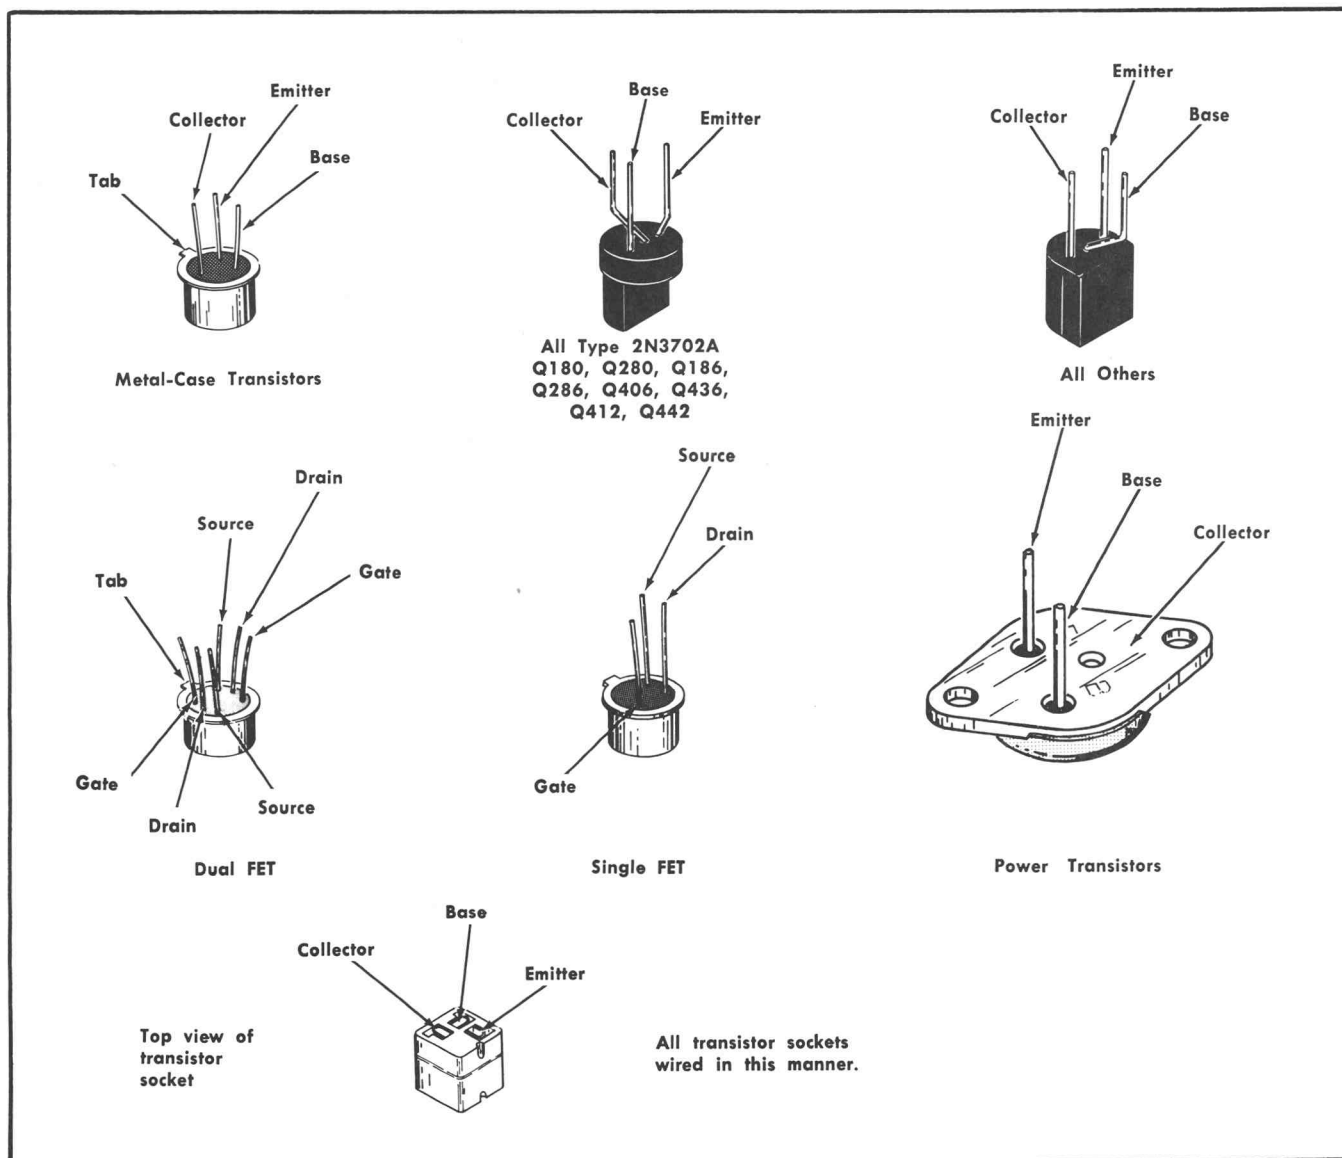

Fig. 4-15. Semiconductor base pin and socket arrangements.
Figs. 4-15 through 4-20 at the end of this section show the circuit boards used in the Type 410. Each electrical component on the boards is identified by its circuit number. The circuit boards are also outlined on the schematic diagrams with a blue line. These pictures, used along with the diagrams, will aid in locating the components mounted on the circuit boards.
A. Transistors and FETs. The best check of transistor or FET operation is actual performance under operating conditions. If a transistor or FET is suspected of being defective it can best be checked by substituting a new component or one that has been checked previously. However, be sure that the circuit conditions are not such that a replacement transistor or FET might also be damaged. If substitute transistors or FETs are not available a dynamic tester (such as the Tektronix Type 576) may be used. Static type testers are not recommended since they do not simulate operating conditions. Fig. 4-15 shows transistor and FET base pin configurations used in this instrument.